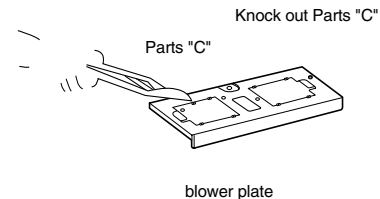

Figure 19
2. Use side cutter or thin snips to cut and remove parts "C" from blower plate. Discard parts "C". Be careful not to distort the plate. See Figure 19.